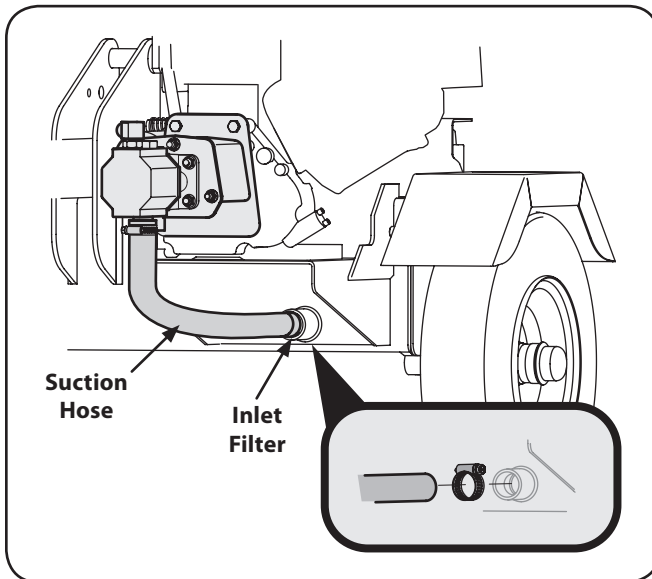

Figure 6-1
2. Disconnect the suction hose from the bottom of the reservoir tank. See Figure 6-1.